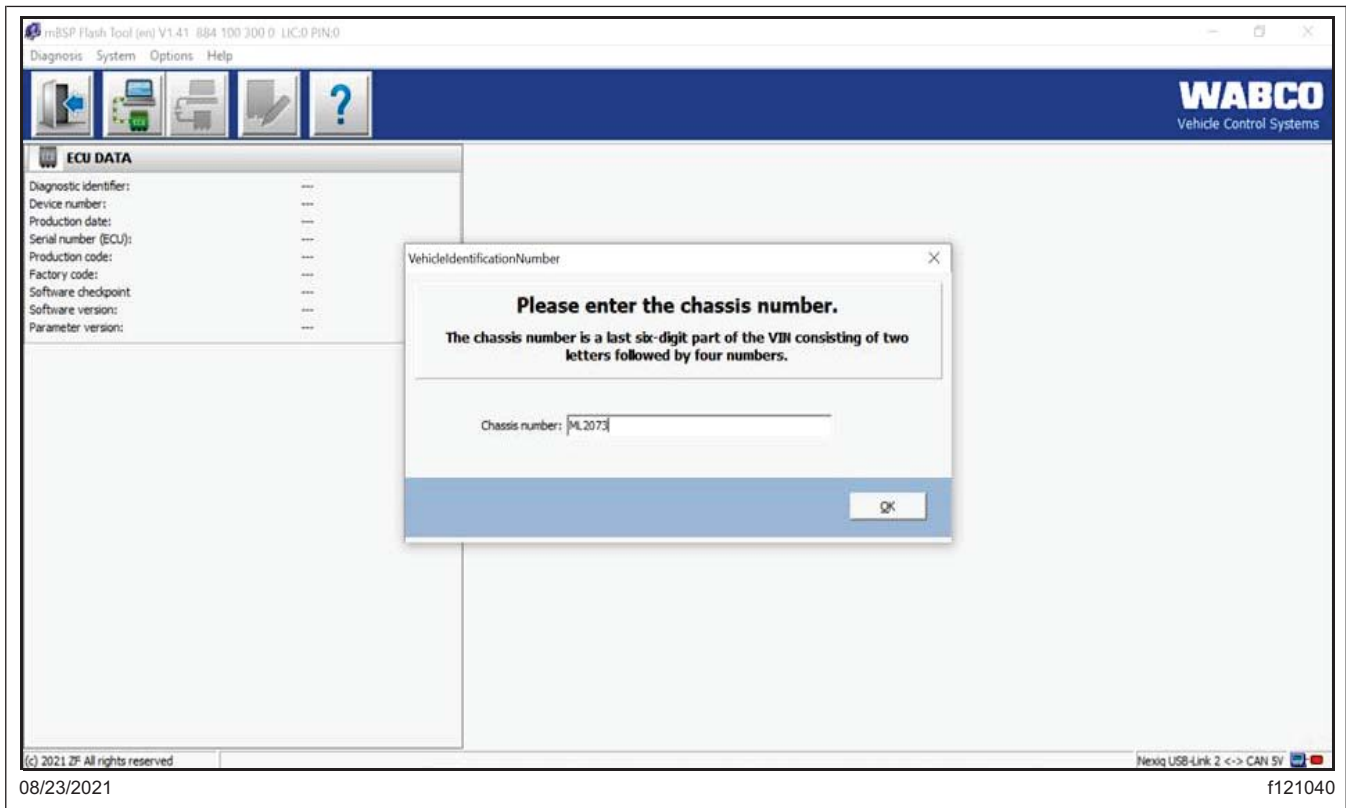

Fig. 28, Entering the Chassis Number
13. A window will now open, requesting the chassis number to be entered. Enter the vehicle chassis number. See Fig. 28.